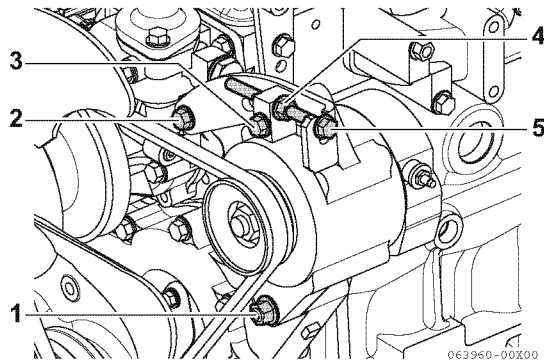

Figure 3
- 1- Loosen the attaching nut (1, **Figure 3**) under the alternator, belt adjuster mounting bolt (2, **Figure 3**), and belt adjuster tightening bolt (3, **Figure 3**).
- 2- Loosen the adjuster bolt lock nut (4, **Figure 3**) and adjust the tension by turning the adjuster bolt (5, **Figure 3**). (Turn the adjuster bolt clock wise to stretch the belt.)
- 3- After adjusting with the adjuster bolt (5, **Figure 3**), in the following order, tighten the tightening bolt (3, **Figure 3**), belt adjuster mounting bolt (2, **Figure 3**), attaching nut (1, **Figure 3**), and then the lock nut (4, **Figure 3**) at last.